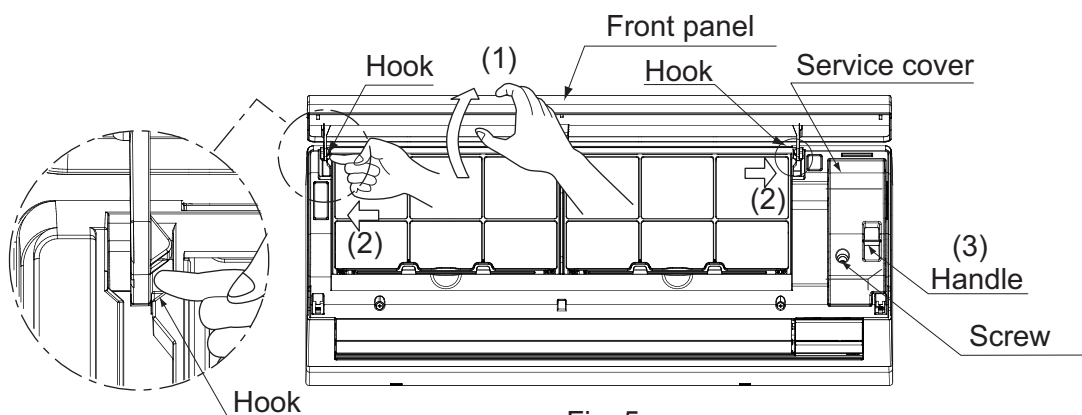

Fig. 5
(4) Remove the front panel and the service cover. (Refer to Fig. 5)